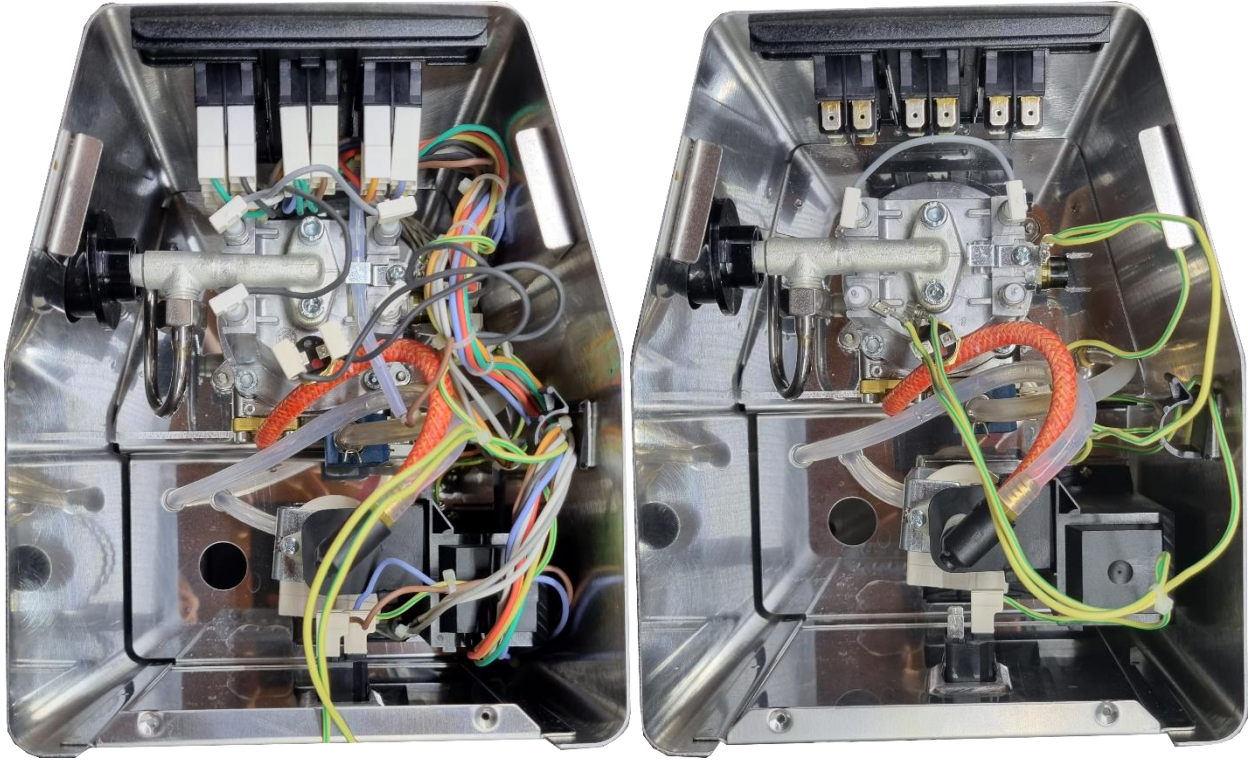

Fig. 3.1
- We need to remove all original cables and electronics. (fig.3.1)
- Keep all the ground wires (green-yellow). You will need to cut some plastic ties to get them out. You need to mount them all back to the same position. (fig.3.1)
- Also keep the short grey wire above the boiler near the buttons. (fig.3.1)
- Ensure that the grounding wires are left in their original place, otherwise connect them according to initial state. See Fig. 3.1.